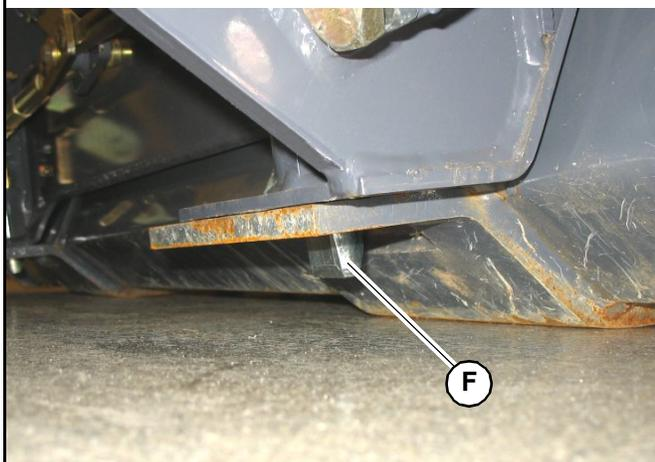

Fig. 103 – Attachment Locking Pins
- Power-A-Tach® system hitch – Press the top of hitch lock switch (I) until safety flags (H) have moved all the way out.
- Manual attachment hitch – Perform the “Mandatory Safety Shutdown Procedure” on page 20 and move hitch lock lever all the way to the left (G).
7. Make sure the locking pins (F, Fig. 103) are fully engaged down through the holes in the attachment.